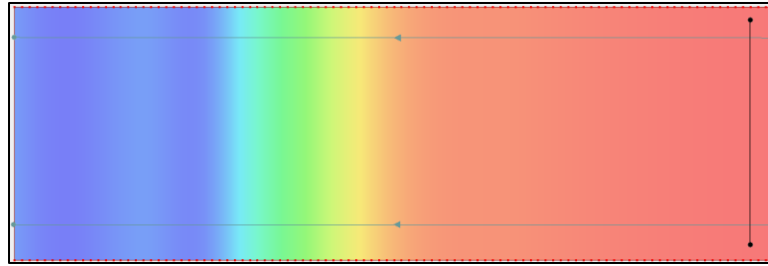

Figure 6 Location of wave maker arc, with transect arcs grayed out
6. Using the **Create Feature Arc**  tool, create an arc that crosses the two transect arcs at the deep end of the scatter set to define the wave maker location (shown in Figure 6).